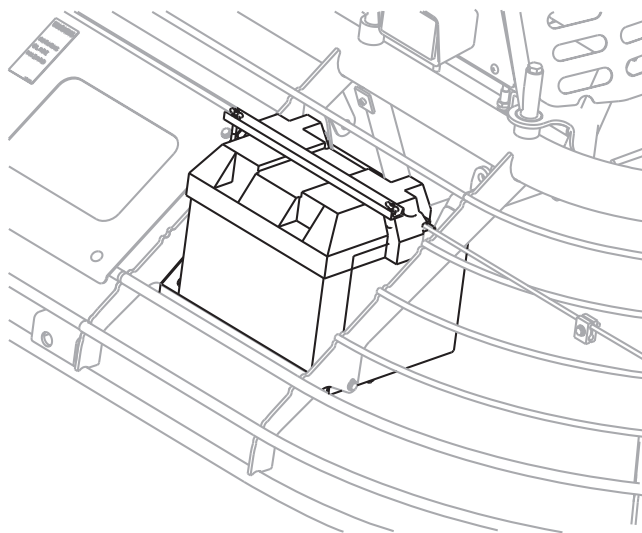

Figure 12. Battery Box
2. To install the battery on the trowel, make sure that the battery is well seated in the battery box (Figure 12).